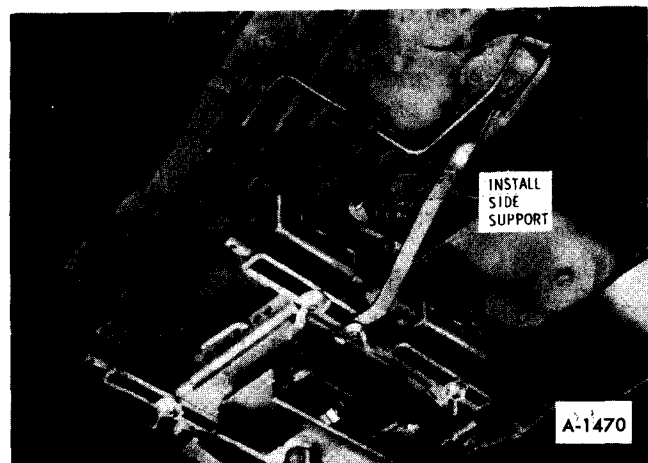

Figure 73—Transmission Jack Installation
16. Position transmission jack under transmission as shown in figure 73.
17. Remove six (6) bolts that attach the flywheel housing to the engine.